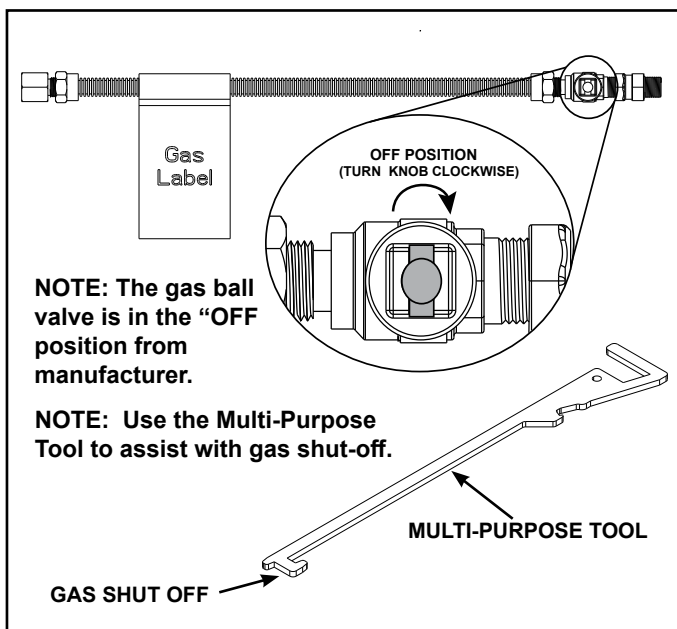

Figure 7.1 Gas Shut-off
- Use multi-purpose tool to assist with gas shutoff. See Figure 7.1. The gas ball valve is in the "OFF" position from manufacturer.